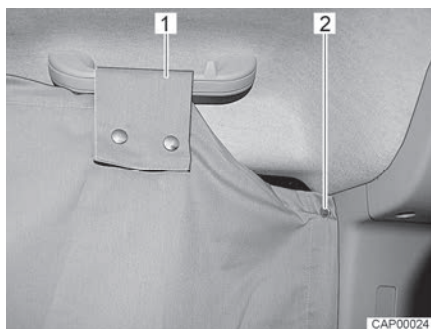

Fig. 35 Cabin black-out shade on side pane
- Fasten cabin black-out shade on one side of the driver's cabin. In order to do this, fasten two snap fasteners (Fig. 35,2) behind the side pane, on the B column.
- Guide loop (Fig. 35,1) over the handle above the side pane and fasten with snap fasteners.